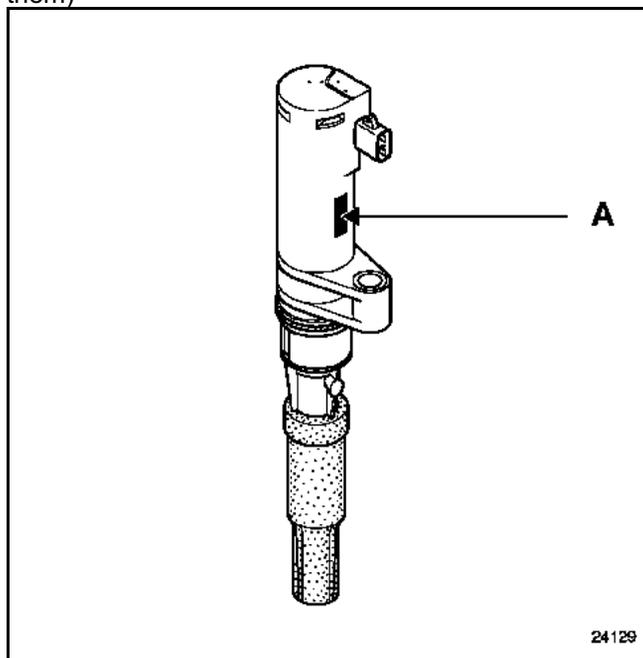

Fig. 1
- **Without removing them**, check the fabrication date of the ignition coils (A) (**Fig. 1**).